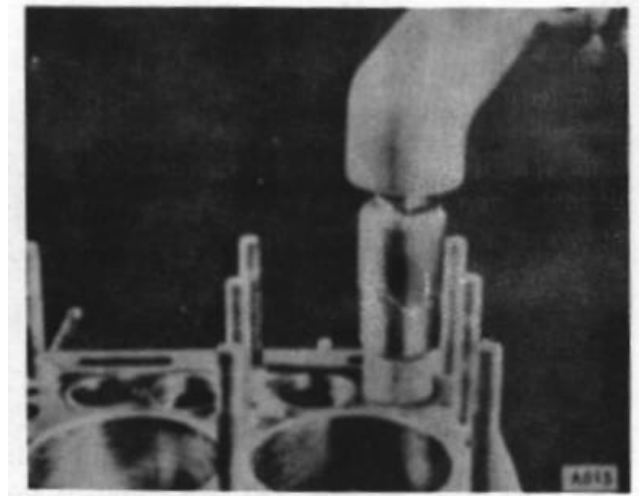
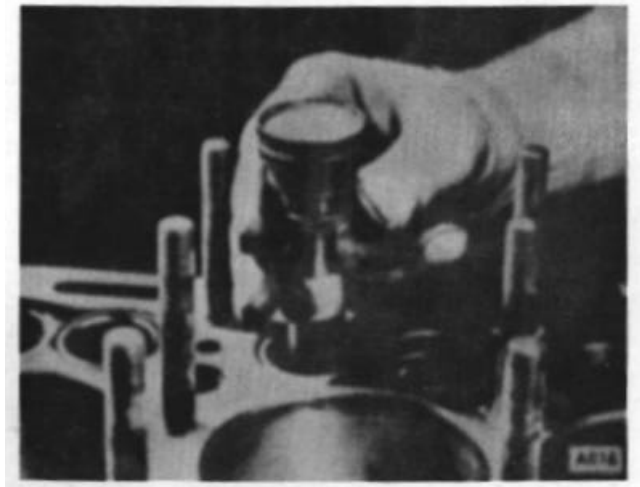

Figure 14.
Figure 15.
3. Grind the intake and exhaust valve seats (Fig. 14) in the block in accordance with Specification Listing. Before removing the arbor, check seat for runout. Total indicator reading of the run-out must not be more than .002". Use a solid stem pilot with a long taper, as all valve seats must be ground concentric and square with either new or worn valve stem guide holes. (Fig. 15)